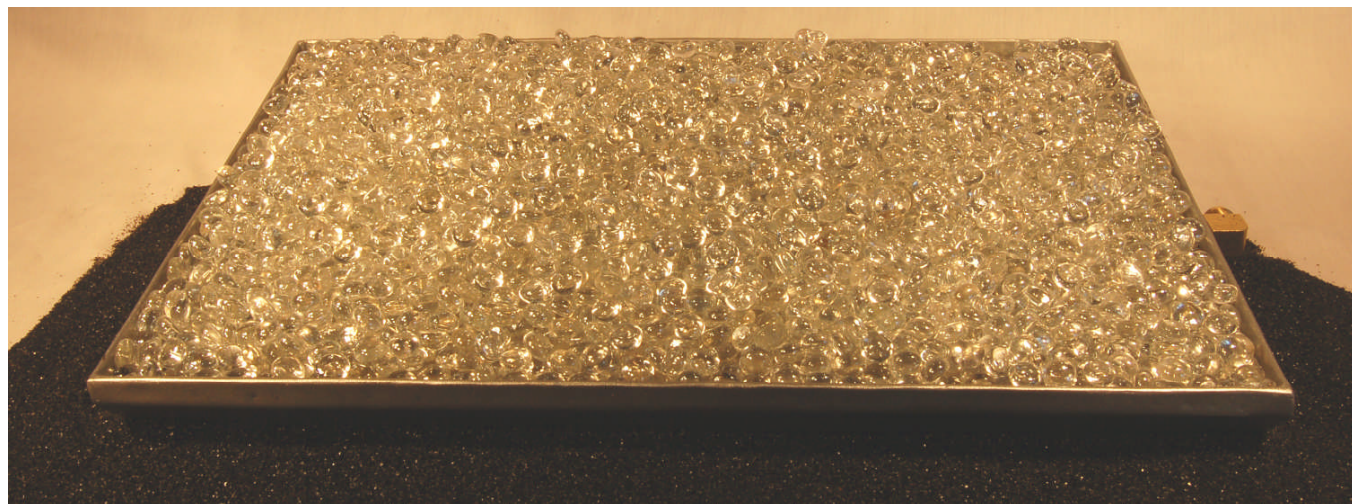

FIGURE 19
- 2- Pour the decorative sand around the burner. DO NOT pour the decorative sand on the burner itself! (SEE FIGURE 19)